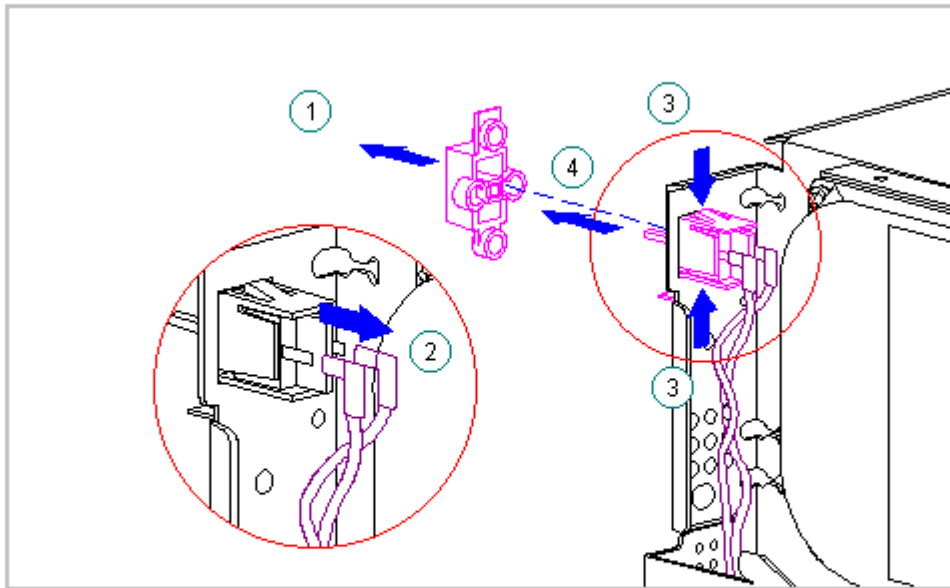

Figure 5-19. Removing the Power Switch
4. Disconnect the power switch as shown in the inset in Figure 5-19. Large hard drives can obstruct the removal of the power switch wires. If it is necessary to move or remove the hard drive, see Section 5.7 for details.